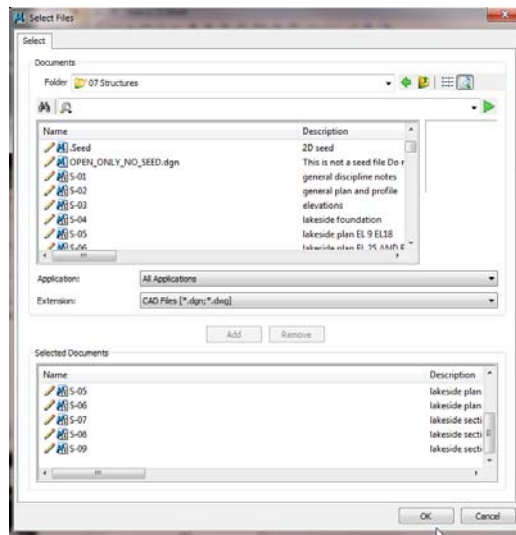

Figure 4
- Once added the files will appear in the lower portion of the dialog. As seen in Figure 4